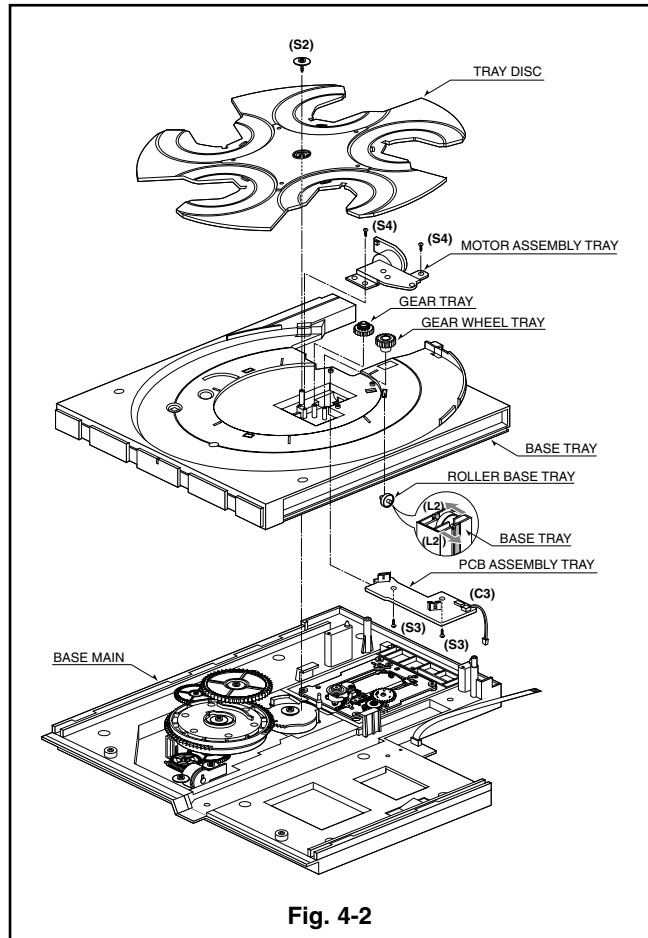

Fig. 4-2
- 2-1. Tray Disc(Fig.4-2) .....4-2
## 2-1. Tray Disc(Fig.4-2)